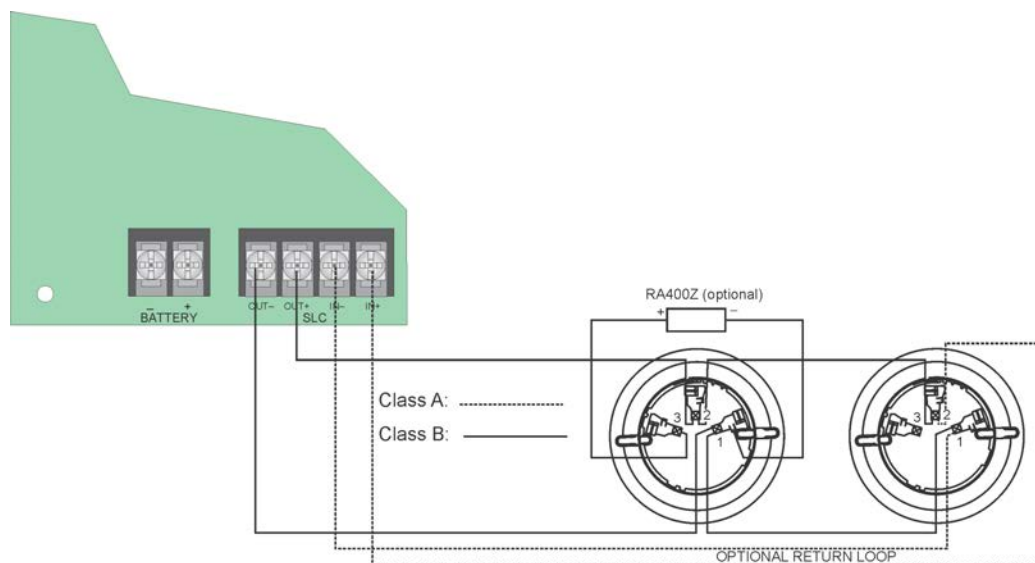

Figure 7.4 Heat and Smoke Detector Connection to the Panel.
1. Wire device bases as shown in Figure 7.4.